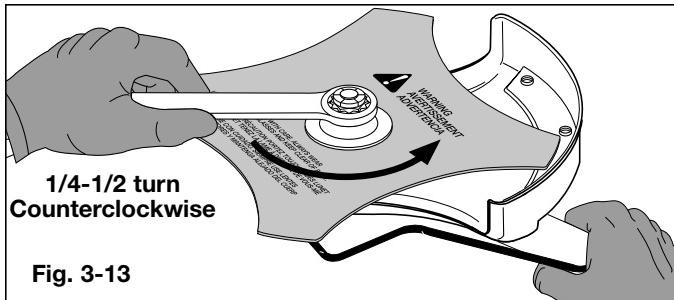

Fig. 3-13
- Without a torque wrench, use a 5/8 inch closed-end or socket wrench, turning the nut until the blade retainer is snug against the shaft bushing. Make sure that the blade is installed correctly, then rotate the nut an additional 1/4 to 1/2 turn counterclockwise (Fig. 3-13).